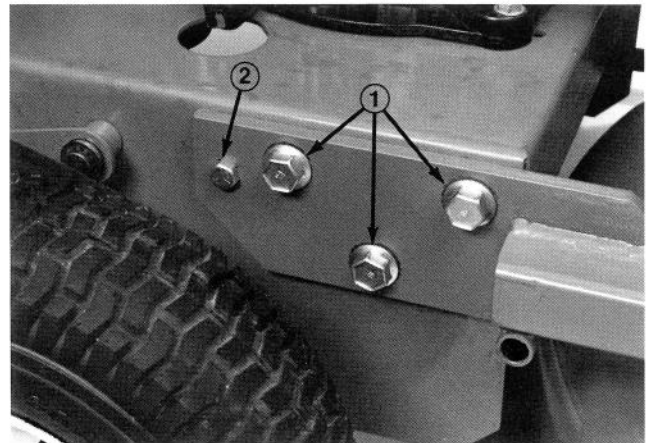

Figure 2
1. Remove capscrew located to the rear of (3) carrier frame mounting holes on each side of traction frame.
2. Align carrier frame mounting holes with mounting holes in traction frame. Secure each side with three flange screws and locknuts. Also, reinstall capscrews removed in Step 1 (Fig. 2). Torque fasteners to 60-80 ft-lb. (81-109 N-m).